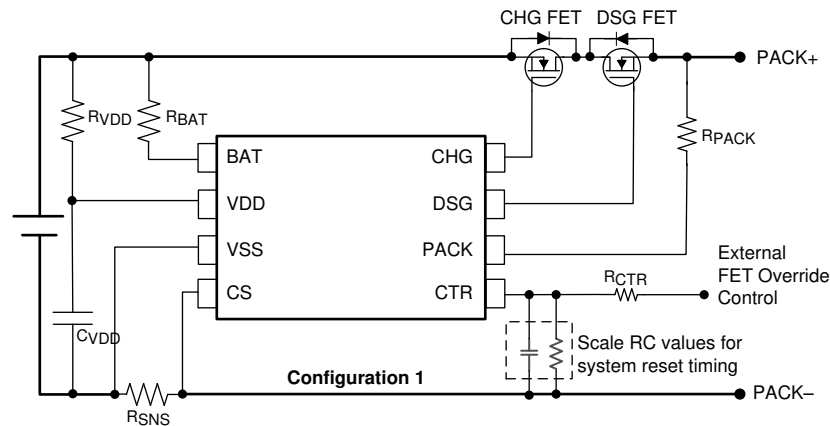

图 8-6. BQ298xx Reference Schematic Configuration 1
- See 图 8-6 for the schematic design.